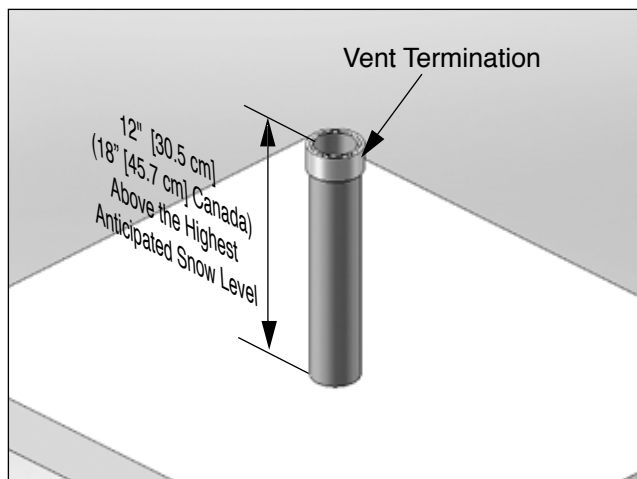

Fig. 15 - Category IV - Vertical Termination of Vent Pipe
3. The vent piping must terminate vertically with a coupling to accept the bird screen and must be located 12" [30.5 cm] (18" [45.7 cm] in Canada) above the highest anticipated snow level as shown in **Fig. 15 on page 24 below**.
3. Locate the vent pipe penetration to provide clearances as described in *Fig. 15 on page 24*.
3. The vent piping must terminate vertically with a coupling as shown in *Fig. 15 on page 24*.
Do not extend the vent pipe above the roof beyond the dimensions shown in *Fig. 15 on page 24*. Extended exposure of the vent pipe could cause condensate to freeze and block the vent pipe, resulting in substantial property damage, serious injury, or death.